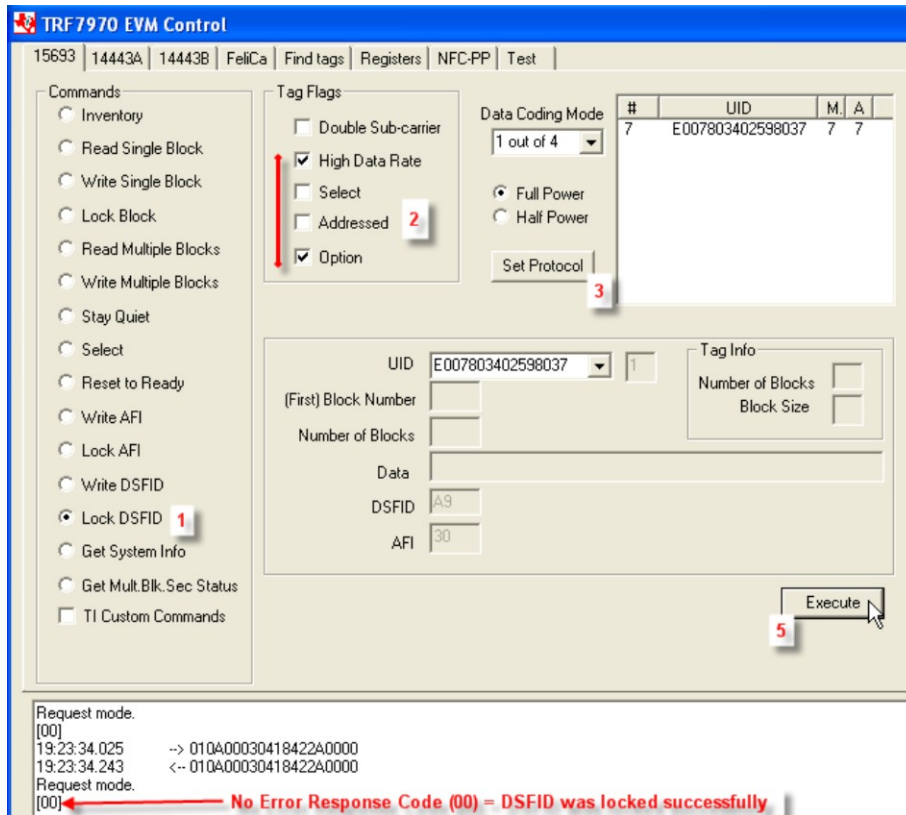

Figure 17. Lock DSFID Command Example
2. Select Tag Flags accordingly (see Figure 17 for one example, note use of option flag).